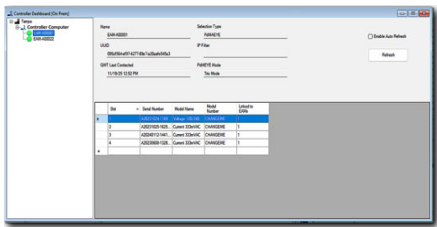

Figure 29: Controller Dashboard
4. The Controller Dashboard window should open as shown in Figure 29.